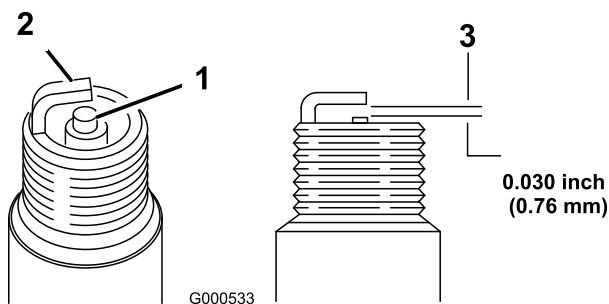

Figure 26
11. Set the gap on the plug to 0.030 inch (0.76 mm) (Figure 26).